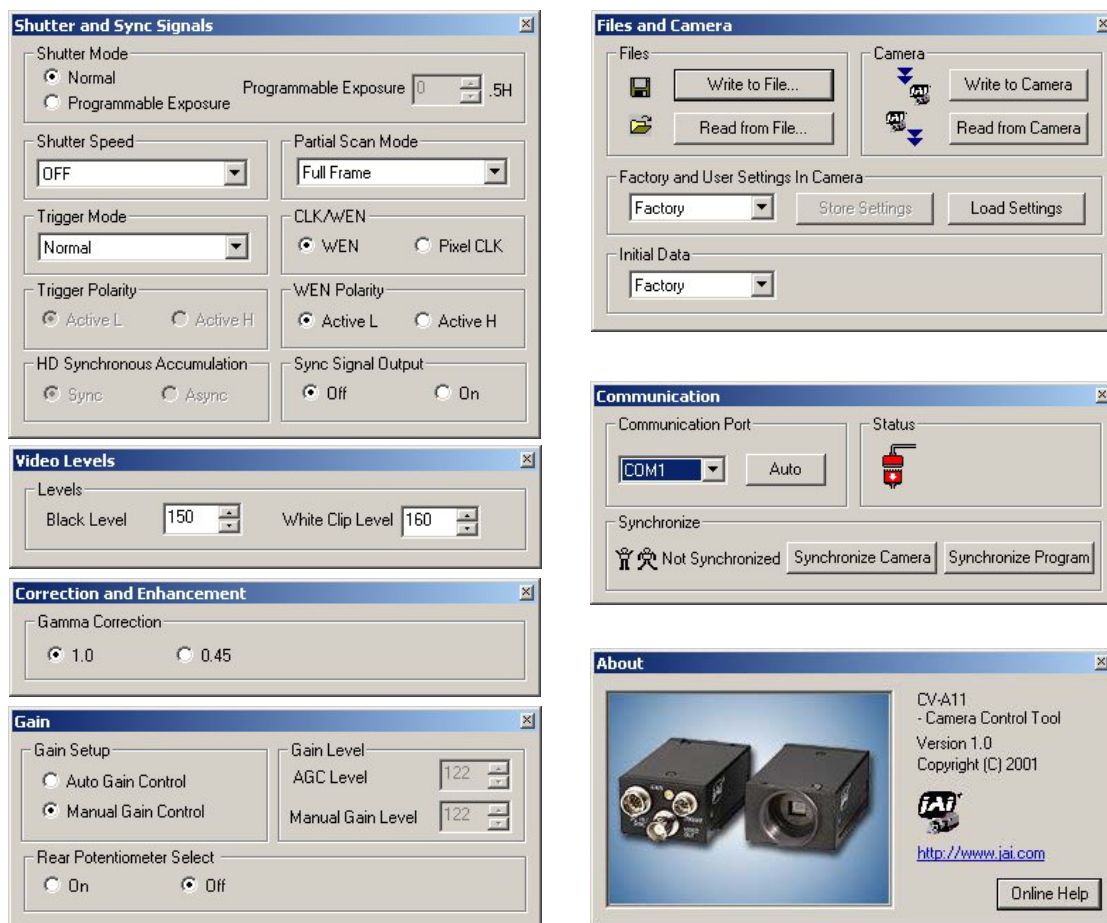

Fig. 25. Windows from Camera Tools.
3. Locate switches SW2-1 and SW2-2 on the PK8299 circuit board, and set the according both in the ON position. See fig. 25.